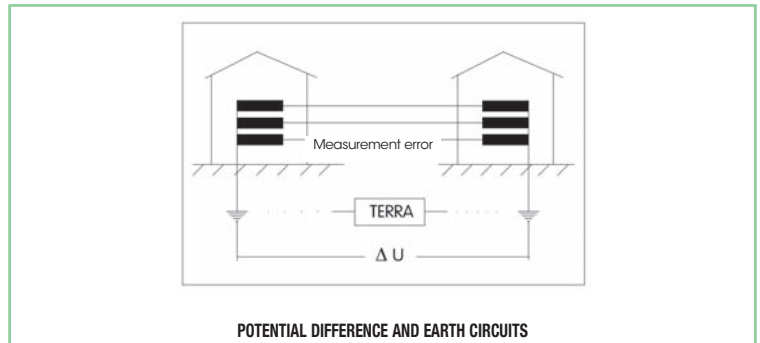

fig. 4
- the higher the isolation (in kV), the greater the security of transmission where there are zero potentials, electromagnetic interference, transients (lightning, discharges etc.) (Fig. 4).